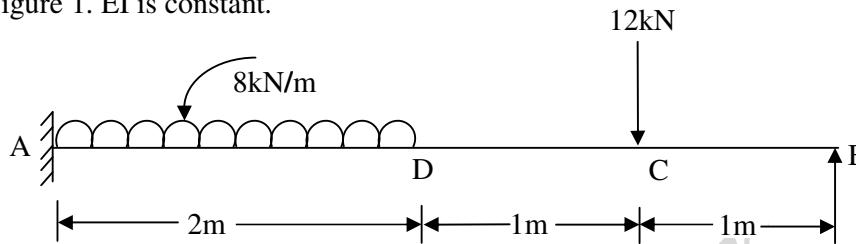

Figure 1
b) In the beam shown in the Figure 1, the prop has sunk by 15 mm. calculate the prop reaction. Take $E=200 \times 10^6 \text{ kN/m}^2$ and $I=5 \times 10^{-6} \text{ m}^4$.
b) Find the deflection at C in the beam as shown in figure 1. Take $EI = 9000 \text{ kNm}^2$. Use strain energy method.
b) Using consistent deformation method, evaluate the prop reaction in the beam shown in Figure 1. EI is constant.